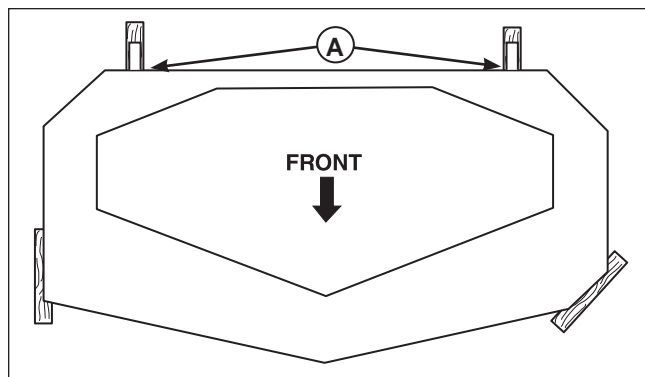

Figure 43. 2 x 4 Locations
3. Place 2 x 4 blocks under each corner of the mower deck with the 3-1/2" sides being vertical. Place a 1/4" (0,64cm) thick spacer on top of the rear 2 x 4 blocks. See Figure 43.